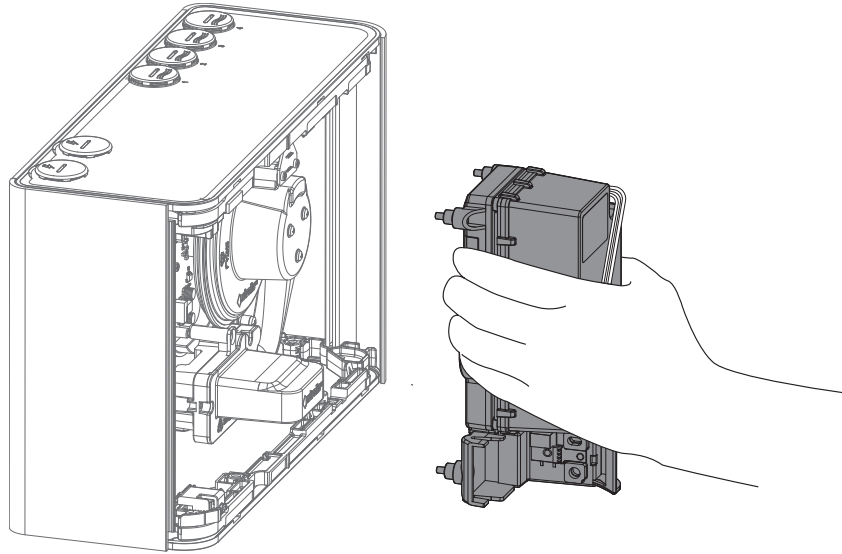

Figure 7-18: Install the Chamber
3. Re-install the chamber as shown in Figure 7-18. Be careful to hold looms (A) and (B) in the position shown so that the looms are not caught between the chamber and other parts of the detector.